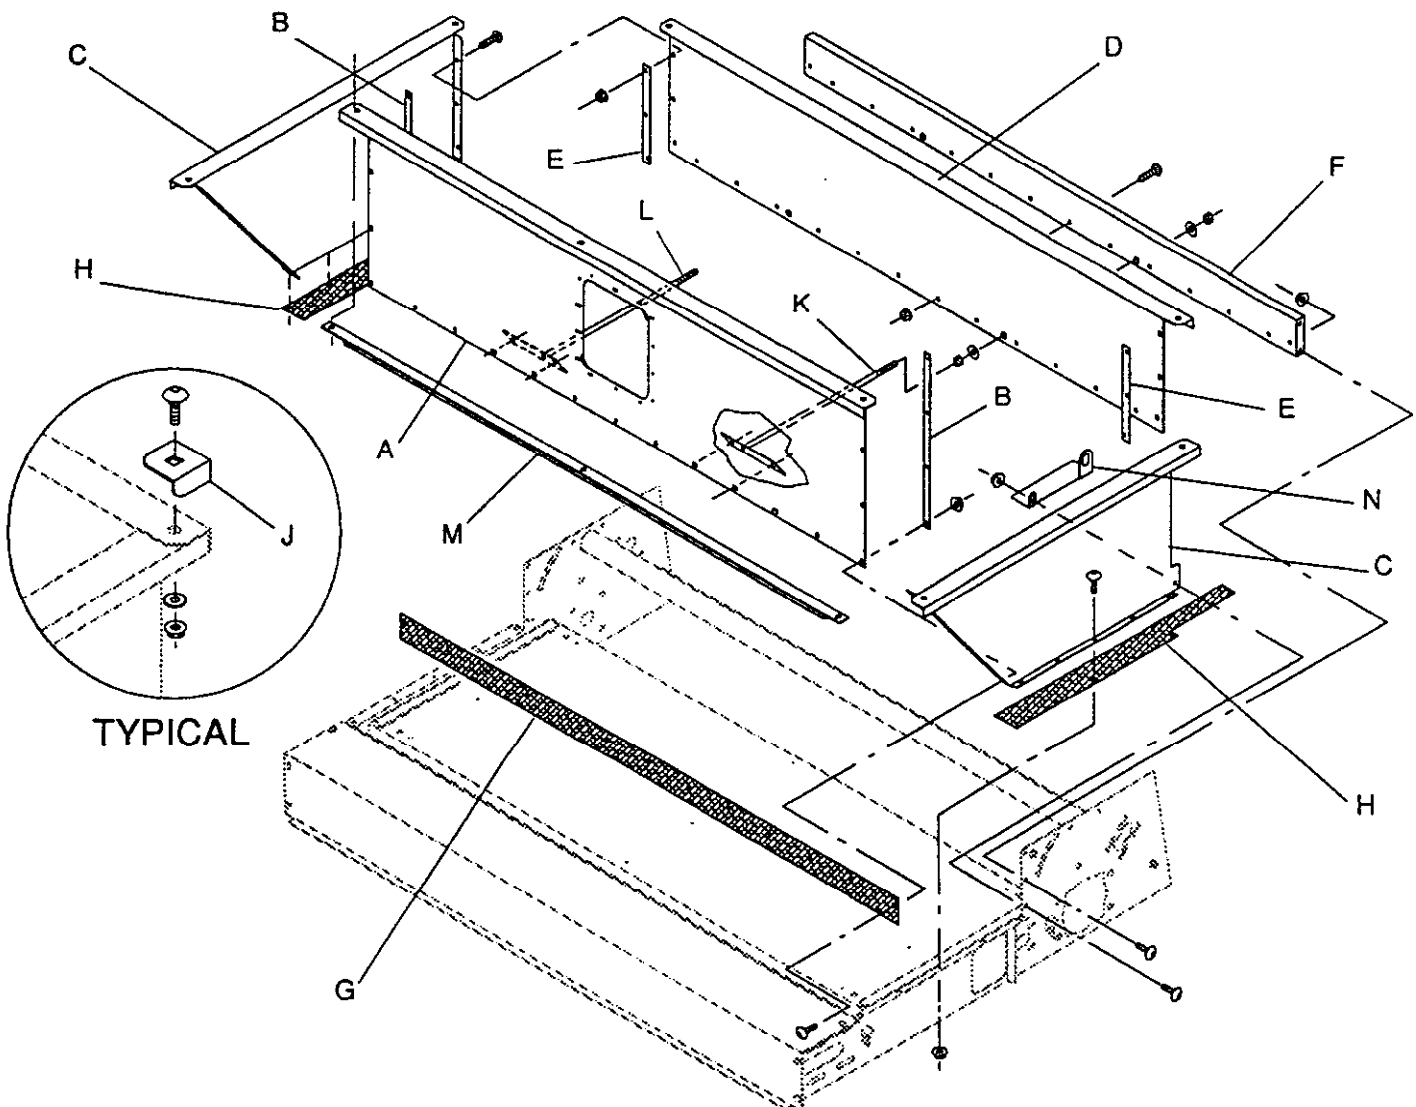
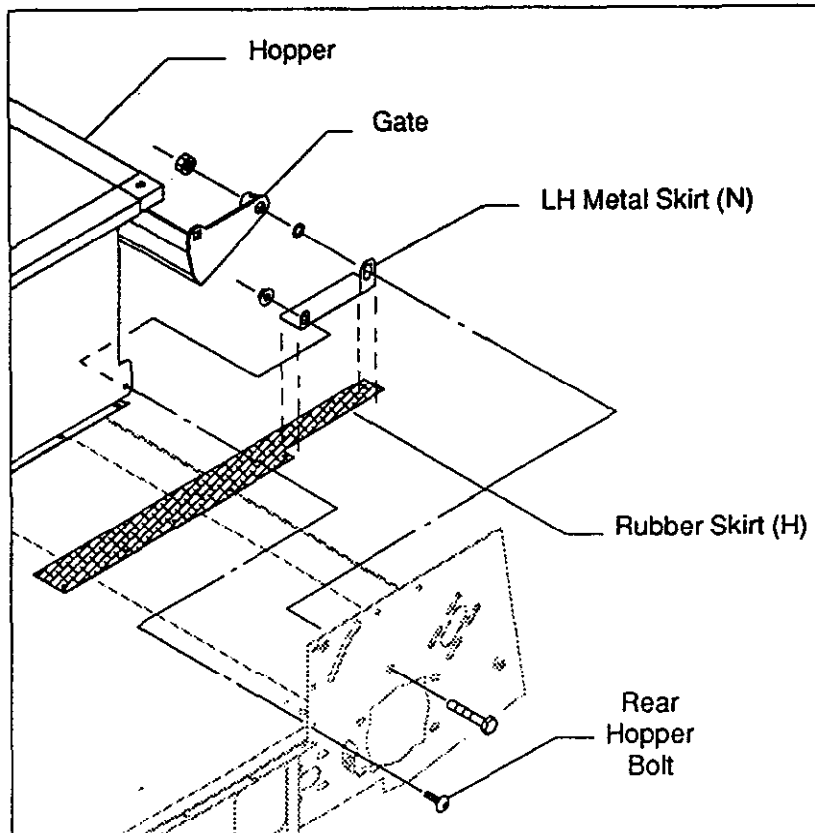

Figure 2
Figure 3
## ASSEMBLE HOPPER (Fig. 2 & 3)
1. Attach the Hopper Brace (F) to Base Frame using (4) 1/4" x 5/8" carriage bolts and whiz nuts.
2. Attach both L.H. and R.H. Support Rods (K & L) through the hopper as shown in Fig. 2.
3. Attach the rear (D) to the Hopper Brace using 1/4" x 5/8" carriage bolts and whiz nuts. Assemble the sides (C), side Rubber Skirts (H) and Hopper Corner Strips (E) to the Rear (D). Do not secure hardware.
4. Attach the Front Rubber Skirt (G) to the Front (A) with Hopper Strips (B) to the sides and bottom of topdresser using 1/4" x 5/8" carriage bolts and whiz nuts.
5. Secure the LH and RH metal skirts (N) to the hopper and side frame with the rear hopper bolt. Secure tightly.
**NOTE:** Only the LH metal skirt is shown in Fig. 2 and Fig. 3.
6. Attach the Hopper Brace (M) under the front channel of the Hopper Front as shown in Fig. 2. Secure center holes with 1/4" x 5/8" carriage bolts.
7. Attach (4) Corner Brackets (J) to the corners of the hopper including the front Hopper Brace .
**NOTE:** Adjust Support Rods (L) to clear gate.